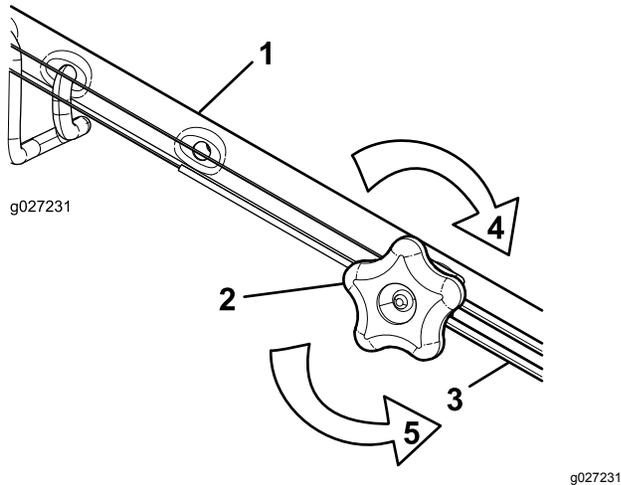

Figure 28
1. Turn the adjustment knob counterclockwise to loosen the cable adjustment (Figure 28).
2. Adjust the tension on the cable (Figure 28) by pulling it back or pushing it forward and holding that position.